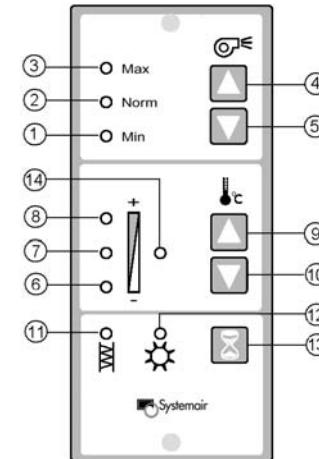

Fig. 11
- Choose operation time for filter (fig. 11). From factory operation time is set to 9 months. This is sufficient in areas where the outdoor air has a satisfactory quality. If the outdoor air is polluted by exhaust from traffic, industry etc, filter change every 6 months is recommended. Even if the outdoor air quality is good, and the fresh air filter is not clogged, max. recommended operation time for filters is 12 months (odours and organic pollution will reduce the supply air quality). To increase or reduce the operation time for filters, press buttons (13) and (9) or (13) and (10) simultaneously. Setting is confirmed by flashing light in lamp (14) and constant light in:
- Lamp (6) for 6 months operation time between filter change
- Lamp (7) for 9 months operation time between filter change
- Lamp (8) for 12 months operation time between filter change